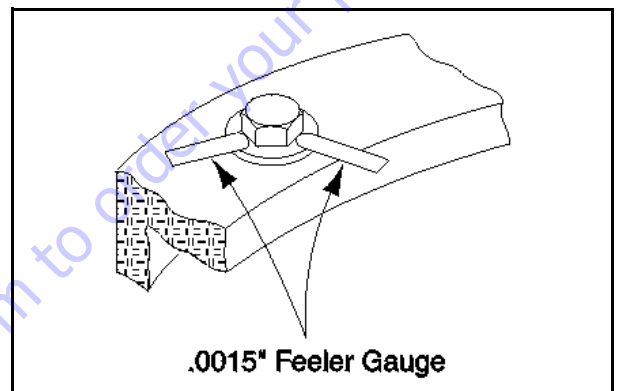

Figure 3-21. Swing Bearing Feeler Gauge Check
- b. At the positions indicated on Figure 3-21, try and insert the 0.0015" feeler gauge between the bolt head and hardened washer at the arrow indicated position.
- d. At the position indicated on Figure 3-21, try and insert the 0.0015" feeler gauge between the bolt head and hardened washer at the arrow indicated position.